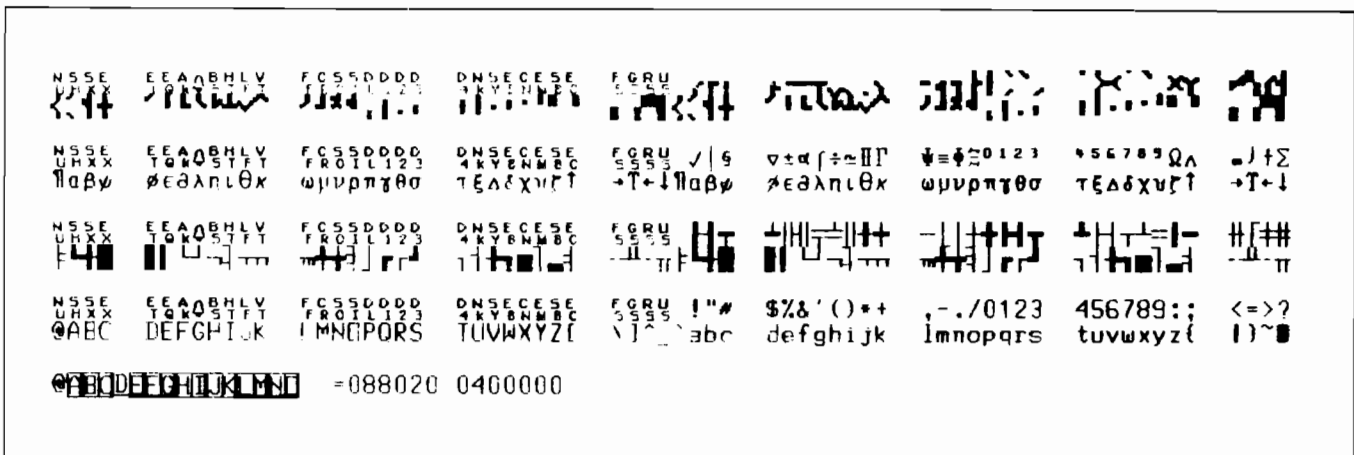

Figure 9-1. Screen Test Pattern
8. Displays the test pattern shown in figure 9-1.